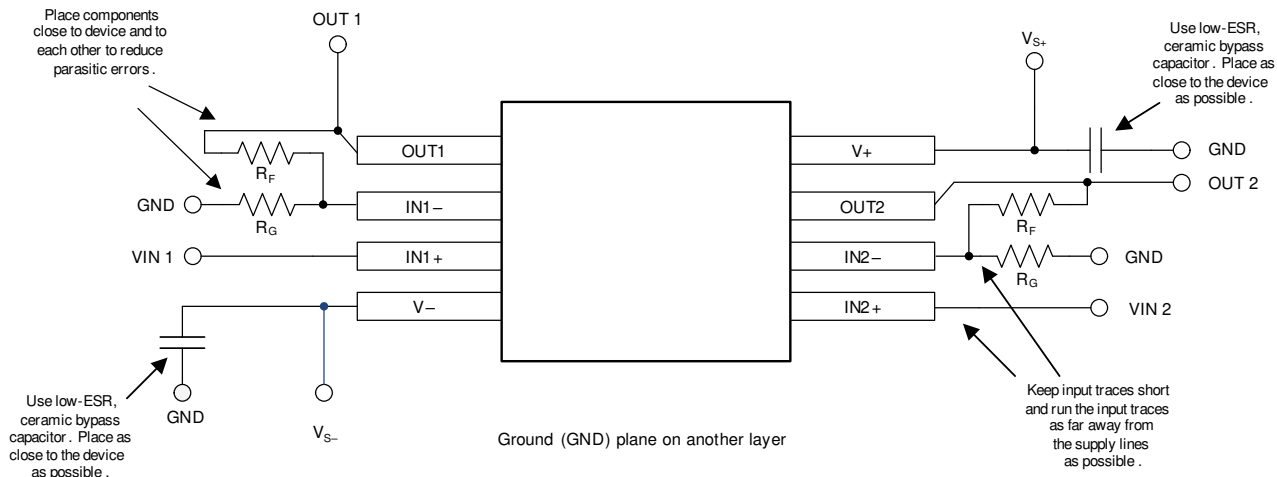

Figure 7-5. Layout Example
- Place the external components as close to the device as possible. As illustrated in Figure 7-5, keeping R_F and R_G close to the inverting input minimizes parasitic capacitance on the inverting input.